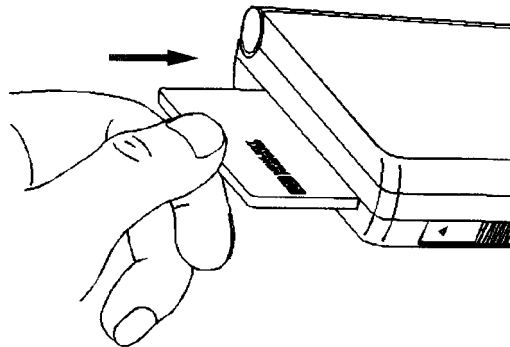

Figure F-2 Inserting the Flash Disk Card
Step 1. Insert the Wave Viewer flash disk card - red arrow side up - into the left end of the palmtop. See Figure F-2.